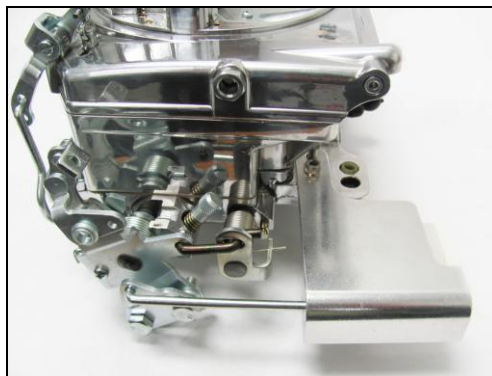

Figure 2
1. Mount the TPS assembly to the throttle body as shown in Figure 2 with the two socket head cap screws provided.
3. Insert the connector rod into the TPS assembly and mount the bracket to the throttle lever as shown (Fig. 2) with the 1/4"-28 bolts, washers, and nuts provided.